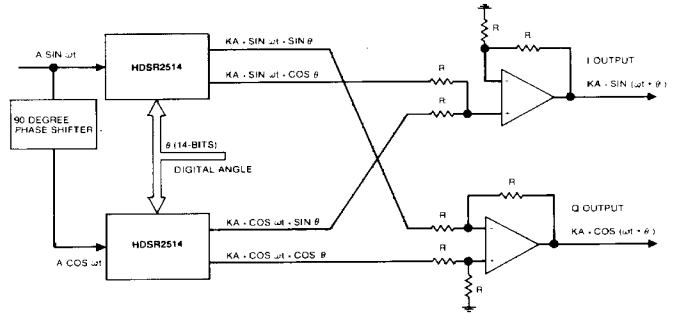

FIGURE 8 Precision Phase Shifter
Two HDSR2514s can be configured with external operational amplifiers to construct a precision digital phase shifter with in-phase (I) and quadrature (Q) outputs. Figure 8 shows the system to implement this function. If the digital angle θ is made to vary with time, modulation of the carrier signal can be accomplished. The I and Q outputs are phase-shifted replicas of the input carrier signal where the phase angle is the digital input angle, θ .
One interesting use for this phase shifter is in the frequency response testing of feedback control systems. The phase shift of the device under test can be measured on an oscilloscope by comparing the output from the system with the phase-shifted output from the circuit of figure 8. For each reading, the digital input (θ) is adjusted until the phase shift of the two signals are equal as seen on the oscilloscope. The digital angle (θ), then represents the system phase shift.